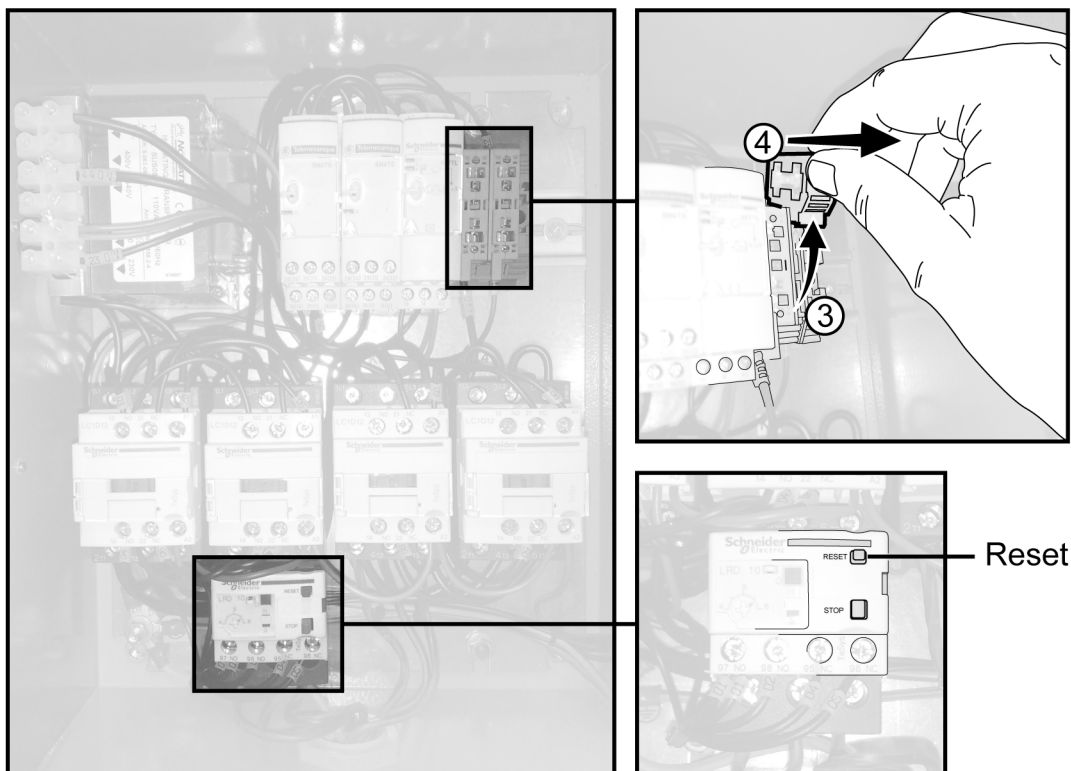

Figure 4-9. Control cabinet
3. Press the motor protection Reset button, see Figure 4-9, page 21.
3. Raise the fuse holder, see position 3 in *Figure 4-9, page 21*.
4. Pull out the fuse holder, see position 4 in *Figure 4-9, page 21*.